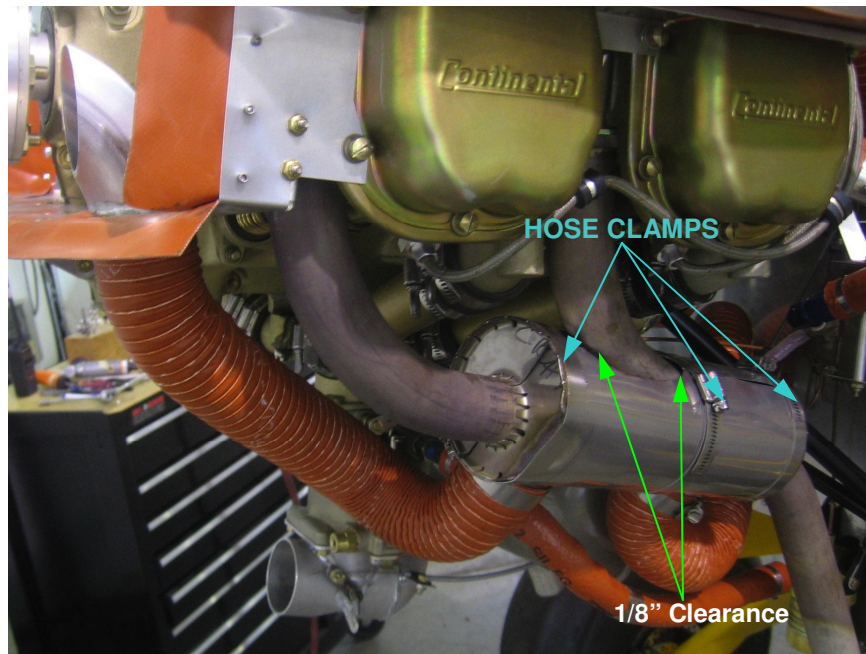

FIGURE 3: Heat Muffler Assembly, LH (Cabin Heat)
6. Install Heat Muffler Assembly, LH (Cabin Heat) on left-hand side of engine. Ensure at least 1/8" clearance between muffler cut-out and exhaust stack all the way around. Secure with three (3) hose clamps (SP57001-001). See Figure 3.